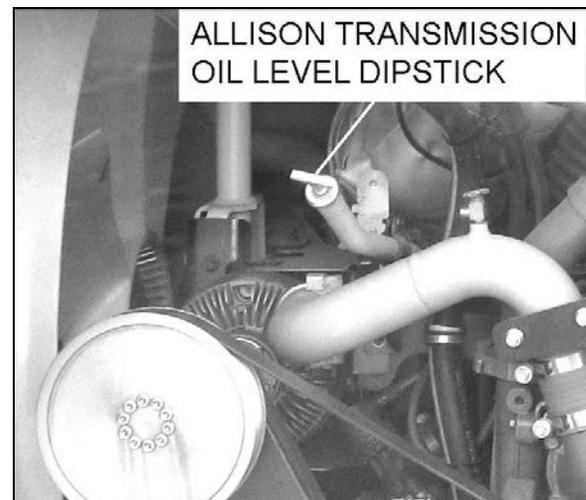

FIGURE 4: OIL LEVEL DIPSTICK (AUTO. TRANS.) 07113
To gain access to the dipstick, open the engine compartment rear doors; dipstick is located on the radiator side of the engine (Figure 4).
4. While the engine is running, remove the dipstick from the tube and wipe it clean (Figure 4). Insert the dipstick into the fill tube, pushing down until it stops.